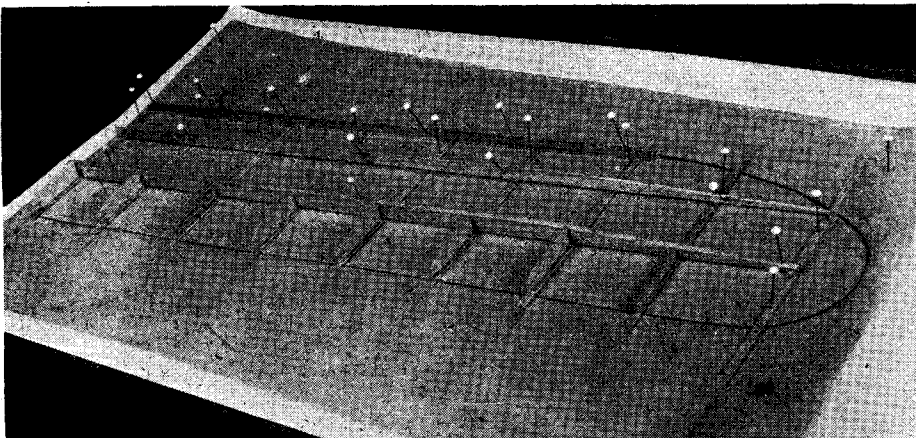

Fig. 19. The first step.
We may now proceed to Fig. 19, which shows the first steps. The plan drawing is pinned
to a flat board, or to a cork bath-mat for preference, and the trailing edge (C) pinned into position. Next, nine of the  $\frac{1}{8}$ -in. balsa strips are pinned to the drawing along the lines of the ribs, seven of them being butt-glued to the trailing edge with cellulose cement. This may be seen in Fig. 19. Now, the main and secondary spars are added, being secured in an upright position with pins, with a touch of cement securing them to each rib strip. Finally, the small nose ribs are cemented in. The size and shape of these nose ribs may be taken from the drawing, Fig. 20.